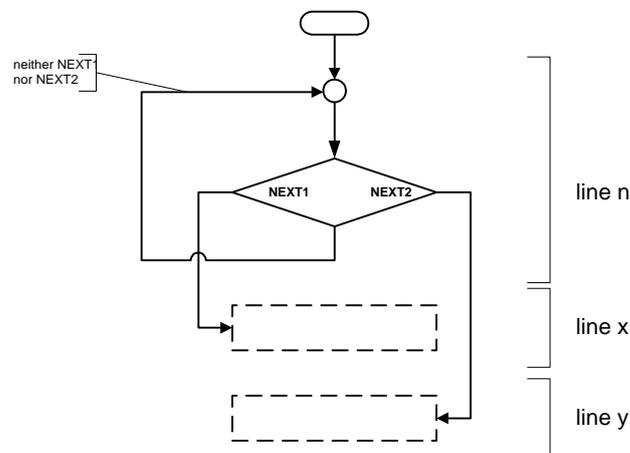

**Figure 19: Position branch time diagram**
In Figure 19 it is assumed that a positioning run will be started in program step 10. When the positioning run is started (10), the course program switches to the next line, program step 11.